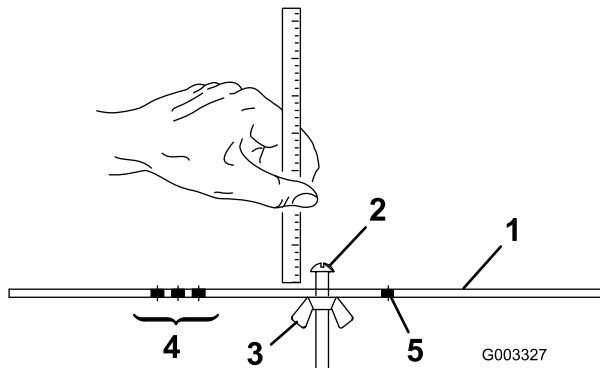

Figure 15
2. Loosen nut on gauge bar (Figure 15) and set adjusting screw to desired height-of-cut. Distance between bottom of screw head and face of bar is height-of-cut.